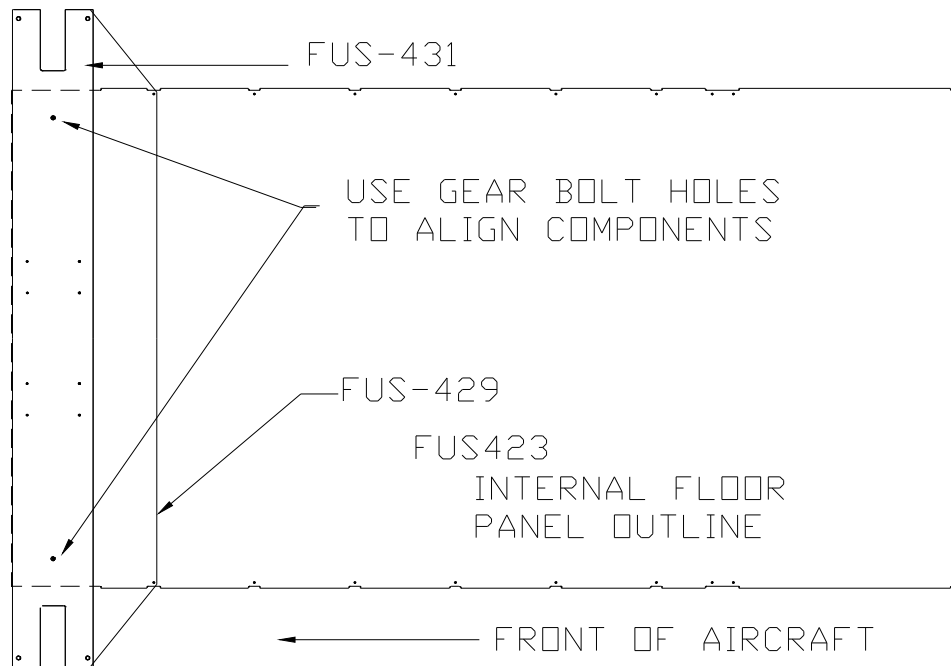

Figure 15.1.1
- 4) Drill #40 holes through the Cabin Floor Bulkheads using the pre-punched holes in the Floor Skin. **NOTE:** You will notice there are only two holes per bulkhead. This is enough to hold the Floor in place while you work on the Controls. You won't drill the bulkhead rivet lines until after the Seat Rails have been located. See figure 15.1.1 for layout and locations of parts. Next, install FUS-33 Corner Wraps the same way you did for the Tailcone inner wraps.